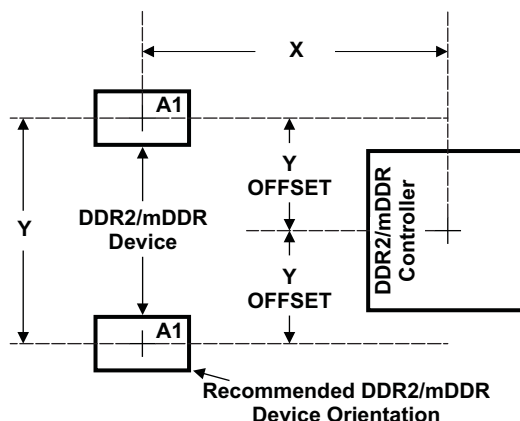

Figure 5-21. OMAPL138 and DDR2/mDDR Device Placement
Figure 5-20 shows the required placement for the device as well as the DDR2/mDDR devices. The dimensions for Figure 5-21 are defined in Table 5-30. The placement does not restrict the side of the PCB that the devices are mounted on. The ultimate purpose of the placement is to limit the maximum trace lengths and allow for proper routing space. For single-memory DDR2/mDDR systems, the second DDR2/mDDR device is omitted from the placement.
(1) See Figure 5-21 for dimension definitions.
(2) Measurements from center of device to center of DDR2/mDDR device.